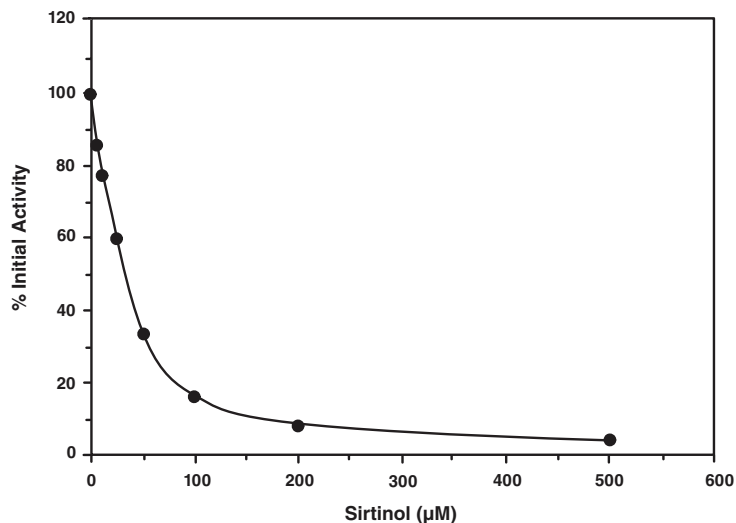

Figure 3. Inhibition of SIRT1 by Sirtinol ($IC_{50} = 38 \mu M$)
4. Either graph the Percent Inhibition or Percent Initial Activity as a function of the inhibitor concentration to determine the IC₅₀ value (concentration at which there was 50% inhibition). An example of SIRT1 inhibition by Sirtinol, a sirtuin-specific inhibitor, is shown in Figure 3 on page 16.^{19,20}